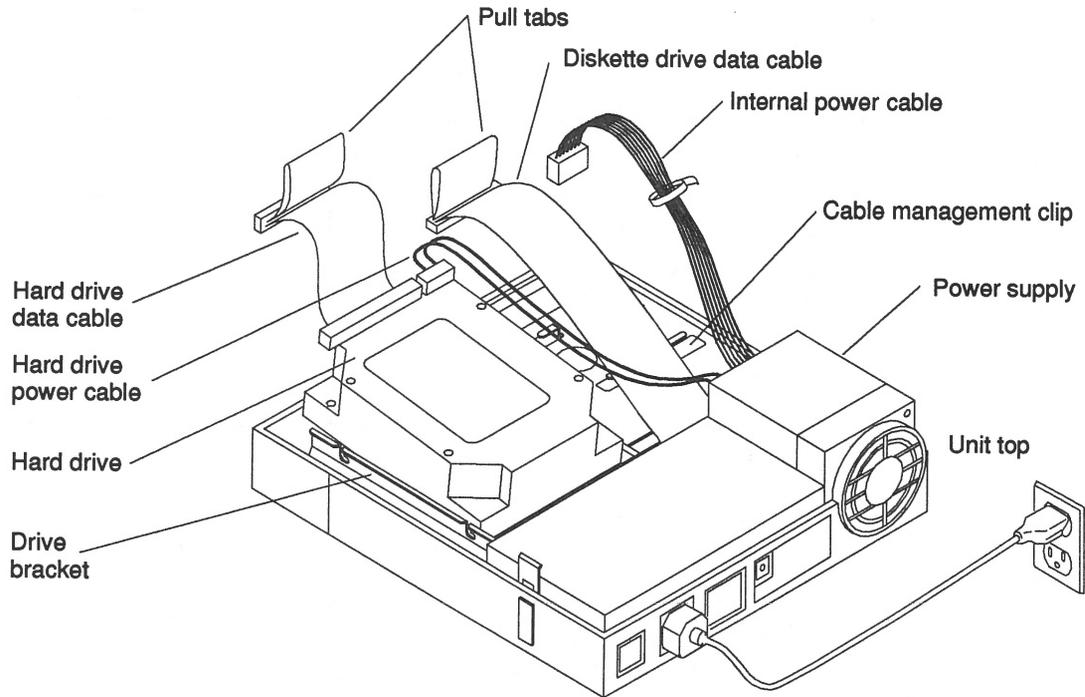

Figure 6-10 Hard Disk Drive in the Disk Drive Bracket
- Loosen the screws, slide the disk drive out of the slots, and remove the drive from the unit. Refer to Figure 6-10.